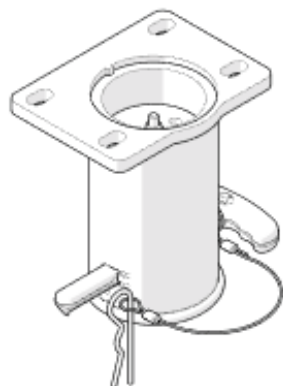

Figure 3
2. Push the spindle right in (spring compressed) (Figure 3).